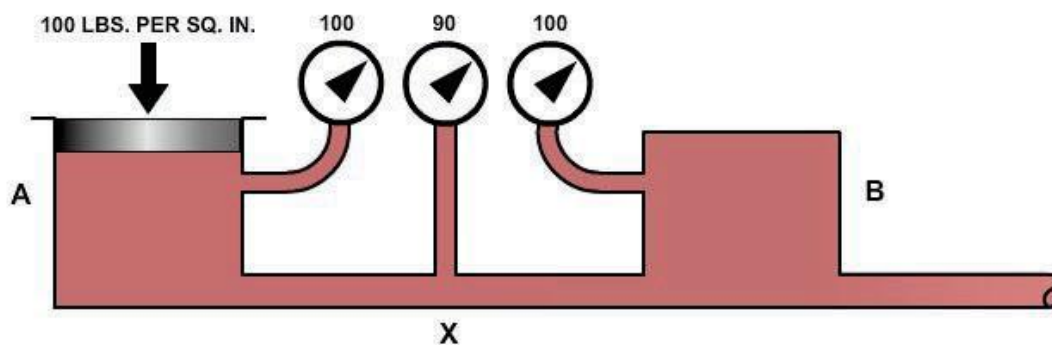

Figure 2-13 — Relationship of static and dynamic factors (Bernoulli's principle).
- Bernoulli's principle—this principle was discovered by Jacques (or Jakob) Bernoulli, a Swiss philosopher and mathematician who lived from 1654 to 1705 A.D. He worked extensively with hydraulics and the pressure-temperature relationship. Bernoulli's principle governs the relationship of the static and dynamic factors concerning noncompressible fluids. *Figure 2-13* shows the effect of Bernoulli's principle. Chamber A is under pressure and is connected by a tube to chamber B, also under pressure. Chamber A is under static pressure of 100 psi. The pressure at some point, X, along the connecting tube consists of a velocity pressure of 10 psi. This pressure is exerted in a direction parallel to the line of flow. Added is the unused static pressure of 90 psi, which obeys Pascal's law and operates equally in all directions. As the fluid enters chamber B from the constricted space, it slows down. In so doing, its velocity head is changed back to pressure head. The force required to absorb the fluid's inertia equals the force required to start the fluid moving originally. Therefore, the static pressure in chamber B is again equal to that in chamber A. It was lower at intermediate point X.
Figure 2-13 disregards friction, and it is not encountered in actual practice. Force or head is also required to overcome friction. But, unlike the inertia effect, this force cannot be recovered again although the energy represented still exists somewhere as heat. Therefore, in an actual system the pressure in chamber B would be less than in chamber A. This force is a result of the pressure used in overcoming friction along the way. At all points in a system, the static pressure is always the original static pressure less any velocity head at the point in question. It is also less the friction head consumed in reaching that point. Both velocity head and friction represent energy that came from the original static head. Energy cannot be destroyed. So, the sum of the static head, velocity head, and